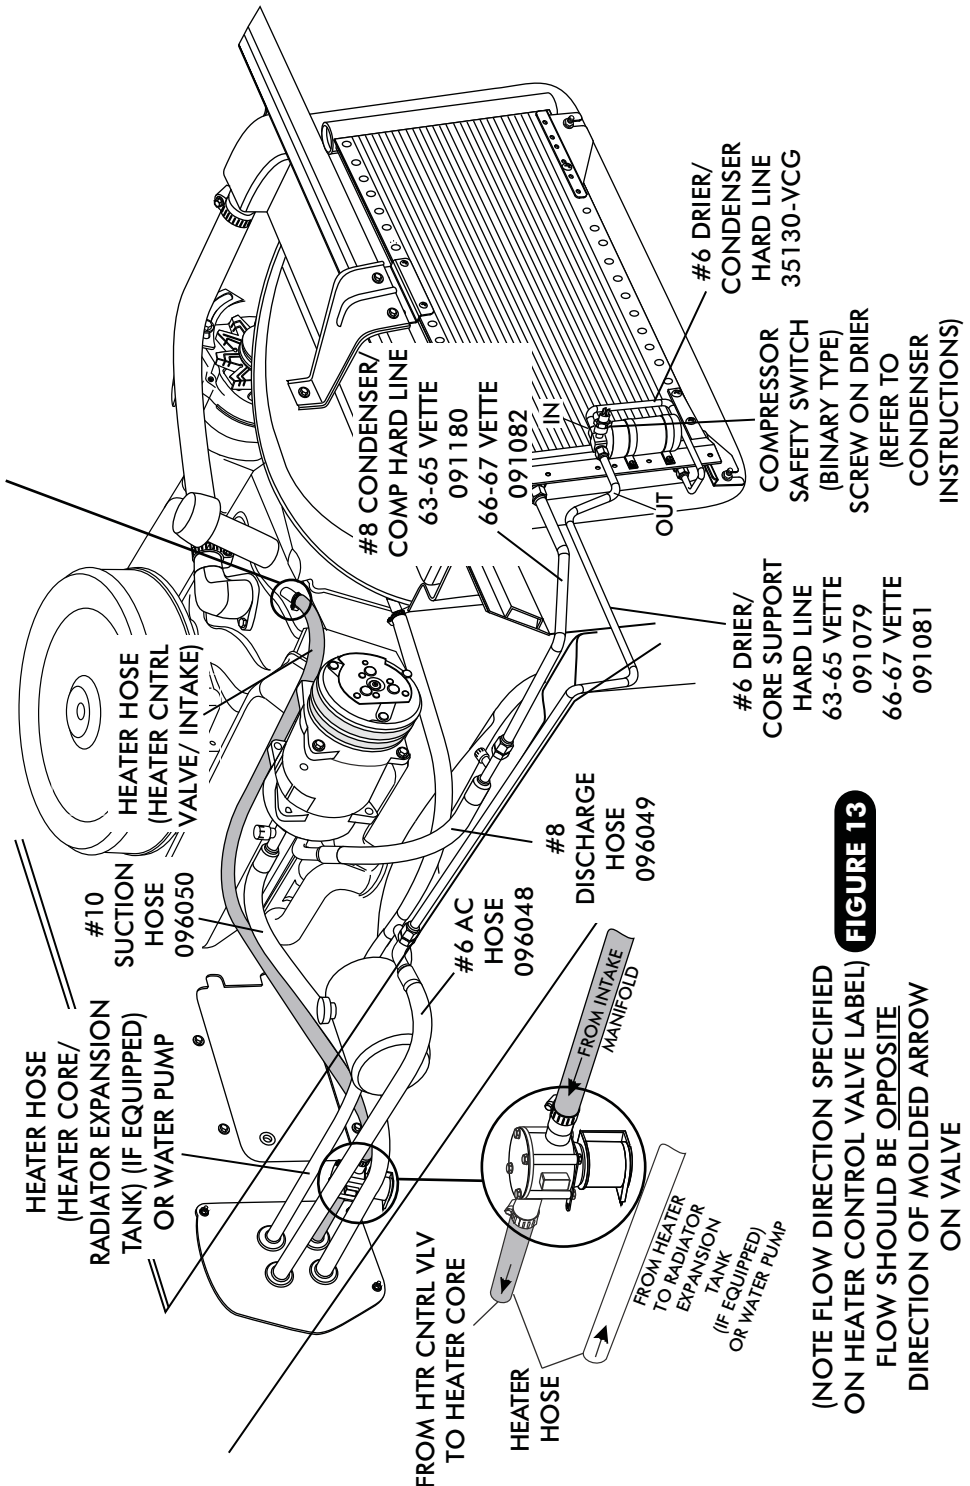

FIGURE 13
- ☐ LOCATE THE #8 COMPRESSOR A/C HOSE. LUBRICATE (2) #8 O-RINGS (SEE FIGURE 12, ABOVE) AND CONNECT THE 135° FEMALE FITTING TO THE #8 DISCHARGE PORT ON THE COMPRESSOR. ROUTE THE STRAIGHT FEMALE FITTING w/ 134a SERVICE PORT TO THE #8 CONDENSER HARDLINE COMING THROUGH CORE SUPPORT. SEE FIGURE 13 PAGE 14. TIGHTEN EACH FITTING CONNECTION AS SHOWN IN FIGURE 12 ABOVE.
- ☐ LOCATE THE #10 COMPRESSOR A/C HOSE. LUBRICATE (2) #10 O-RINGS (SEE FIGURE 12, ABOVE) AND CONNECT THE #10 STRAIGHT FEMALE FITTING w/134a SERVICE PORT TO THE #10 SUCTION PORT ON THE COMPRESSOR. ROUTE THE 90° FEMALE FITTING TO THE #10 EVAPORATOR. SEE FIGURE 10, PAGE 12 AND FIGURE 13, PAGE 14. TIGHTEN EACH FITTING CONNECTION AS SHOWN IN 12 ABOVE.
- ☐ LOCATE THE #6 EVAPORATOR A/C HOSE. LUBRICATE (2) #6 O-RINGS (SEE FIGURE 12, ABOVE) AND CONNECT THE 90° FEMALE FITTING TO THE DRIER HARDLINE. ROUTE THE 90° FEMALE FITTING TO THE #6 EVAPORATOR. SEE FIGURE 9, PAGE 12 AND FIGURE 13, PAGE 14. TIGHTEN EACH FITTING CONNECTION AS SHOWN IN FIGURE 12, ABOVE.
- ROUTE A PIECE OF HEATER HOSE FROM THE RADIATOR EXPANSION TANK (IF EQUIPPED) OR WATER PUMP TO THE TOP HEATER FITTING OF HEATER CORE AS SHOWN IN FIGURE 9, PAGE 12 AND FIGURE 13 BELOW. SECURE USING HOSE CLAMPS. **NOTE: OEM RADIATOR EXPANSION TANK OUTLET IS 3/4". (OPTION 1) USE GATES HEATER HOSE PART # 18084 3/4" x 5/8" x 60" (REFER TO PAGE 12) FOR HEATER HOSE MODIFICATION. (OPTION 2) 3/4 x 5/8 REDUCER FITTING IS REQUIRED (NOT SUPPLIED)**
- ROUTE A PIECE OF HEATER HOSE FROM THE INTAKE TO THE BOTTOM HEATER FITTING OF HEATER CORE AS SHOWN IN FIGURE 9, PAGE 12 AND FIGURE 13, BELOW. INSTALL HEATER CONTROL VALVE IN-LINE WITH INTAKE MANIFOLD (PRESSURE SIDE) HEATER HOSE, SECURE USING HOSE CLAMPS AS SHOWN IN FIGURE 13, BELOW. **NOTE PROPER FLOW DIRECTION. IS OPPOSITE MOLDED ARROW ON VALVE**